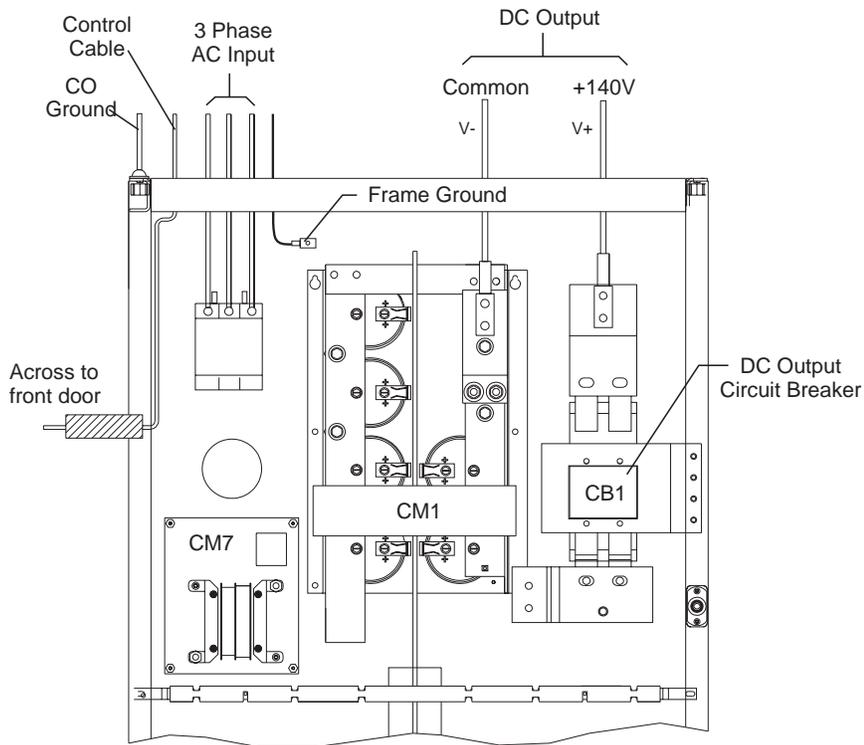

Figure 5-4: Installation of AC and DC Power Cables
bus bar in the rectifier. Torque connections to 240 in-lbs (see Figure 5-4).
9. Thread rectifier ends of cables through rectifier and terminate connectors on positive bus bar in rectifier. Torque to 240 in-lbs (see Figure 5-4).